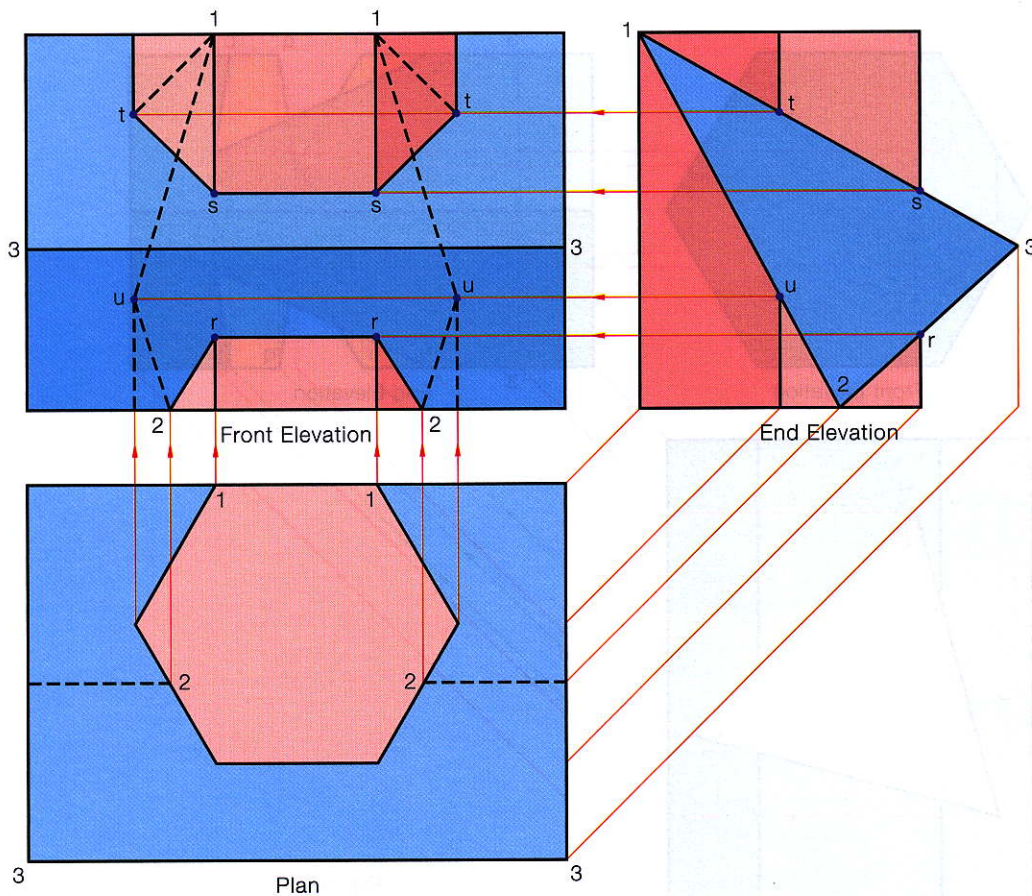

Fig. 10.4
- (1) Draw the given views. Both the plan and end view are complete and provide the necessary information for the front elevation.
- (2) Identify the bend points r, s, t and u in the end elevation. Project these across to the front elevation.
- (3) The end points for edges 1 and 2 are seen in plan and projected up to the front elevation.
- (4) Edge 3 does not make contact with the triangular prism.
- (5) It is important to use indexing in this type of question, Fig. 10.4.